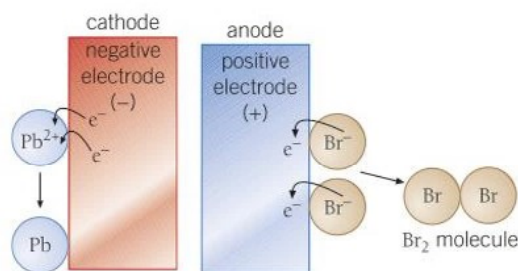

Figure 2 Changes at the cathode and the anode in the electrolysis of molten lead bromide
When you electrolyse an aqueous solution of copper(II) bromide, copper ions, Cu^{2+} , move to the cathode (negative electrode). The bromide ions, Br^- , move to the anode (positive electrode). Copper(II) bromide is split into its elements at the electrodes (Figure 2):
Figure 2 If you dissolve copper bromide in water, you can decompose it by electrolysis. Copper metal, Cu(s) , is formed at the cathode (negative electrode). Brown bromine, $\text{Br}_2(\text{aq})$, appears in solution around the anode (positive electrode)
Think about the electrolysis of molten lead bromide, PbBr_2 (Figure 2). The lead ions, Pb^{2+} , move towards the negative electrode (cathode). When they get there, each ion gains two electrons from the power supply to become a neutral lead atom.